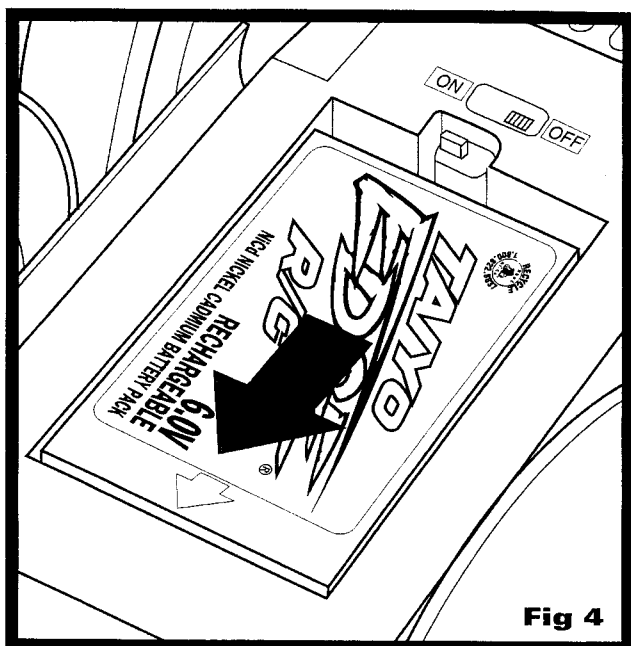

Fig 4
- Slide BATTERY PACK all the way in direction of ARROW (toward back of vehicle) until it stops. (Fig. 4)